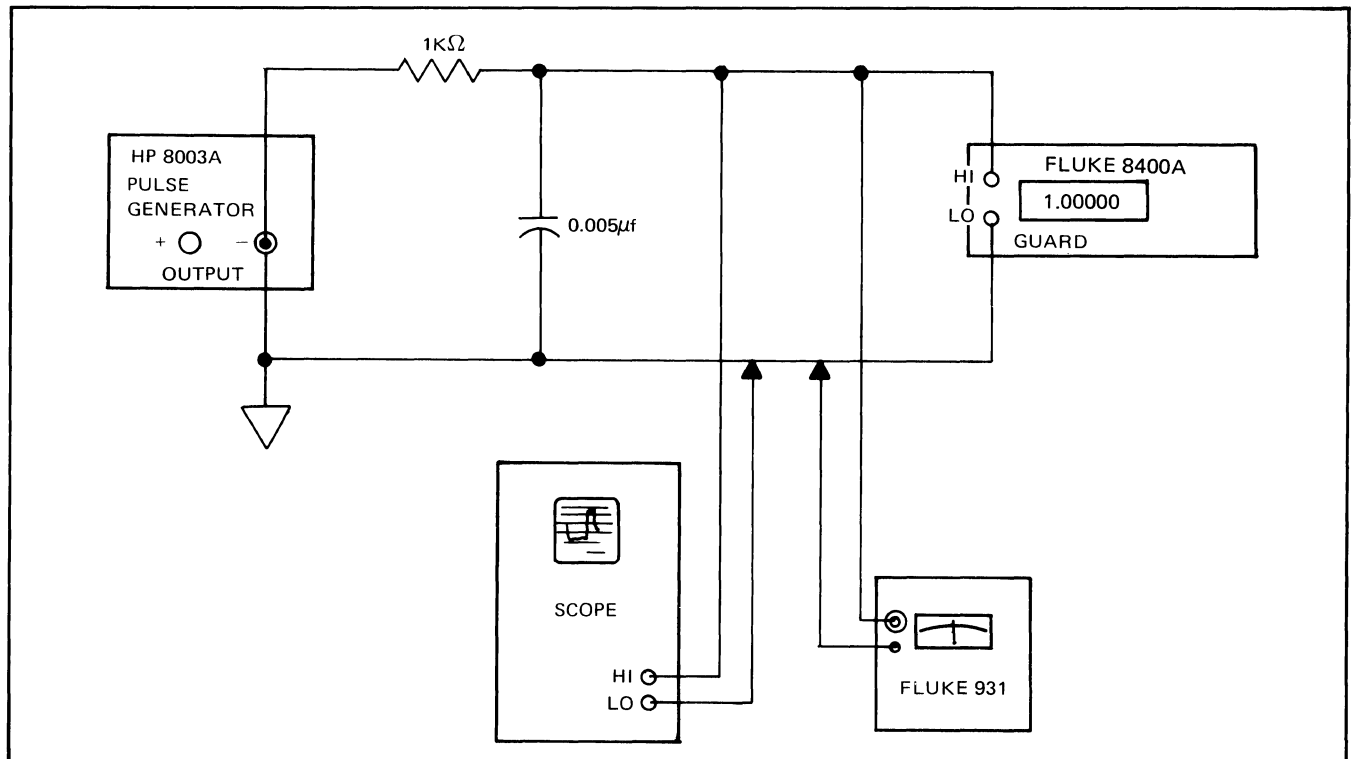

Figure 6-4. EQUIPMENT CONNECTIONS FOR CREST FACTOR ADJUST
- h. Connect equipment as diagramed in Figure 6-4. Set Model 8400A to ac coupling and auto range.